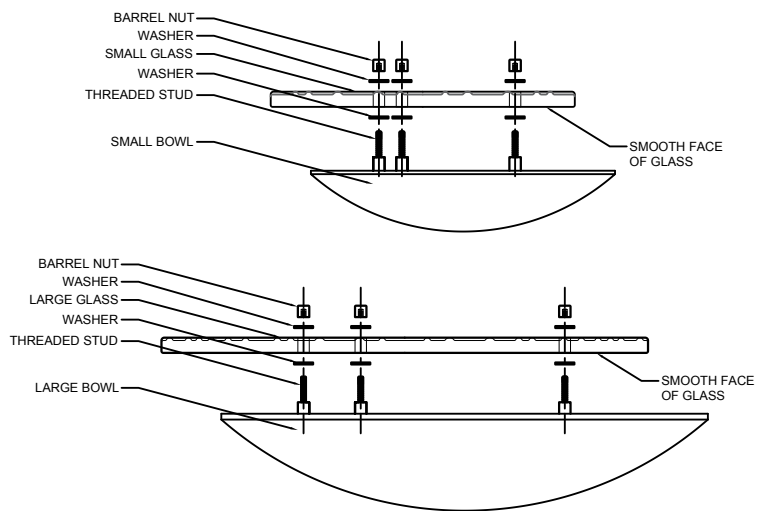

FIGURE-04
- Install glass onto the bowls. Match the 3 holes of the glass to the 3 threaded studs on the bowls then secure it with washer and barrel nuts. Smooth face of the glass should face the floor. Large glass is intended of large bowl and small glass for the small bowl. (See sequence on Figure-04)